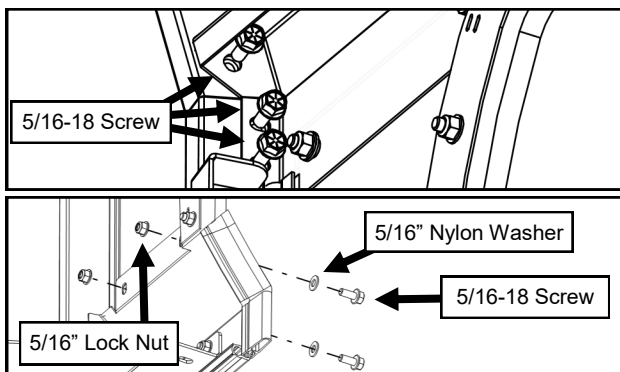

Fig. 9.1a & 9.1b (Cowl Fasteners)
- 9.1 With an assistant, carefully lower the cowl assembly down into place as shown. The polycarbonate side windows mount to the outside surface of the front legs while upper steel portion of the cowl fastens to the inboard side of the side frames. See Figures 9.1a & 9.1b.